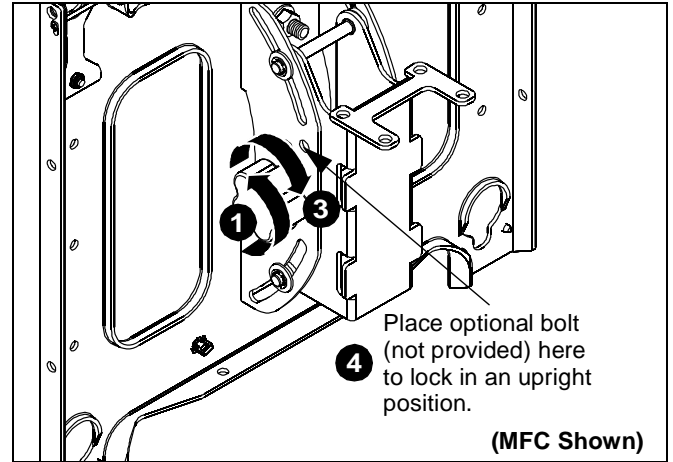

Figure 10
- Turn knob counterclockwise on back of head assembly to loosen the tilt. (See Figure 10)
- Turn knob clockwise to tighten display on head assembly. (See Figure 10)
- If leaving the display in a straight upright position, it is recommended that a bolt (not provided) be placed through the head assembly (See Figure 10) to lock the display into the upright position.